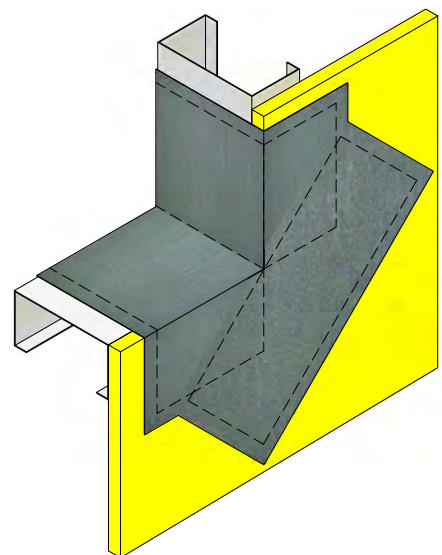

Figure 10
6. Apply additional ACROSTOP-R onto the SHEATHING FABRIC to embed. Verify SHEATHING FABRIC is smooth, free of wrinkles, and voids. (See Figure 10)